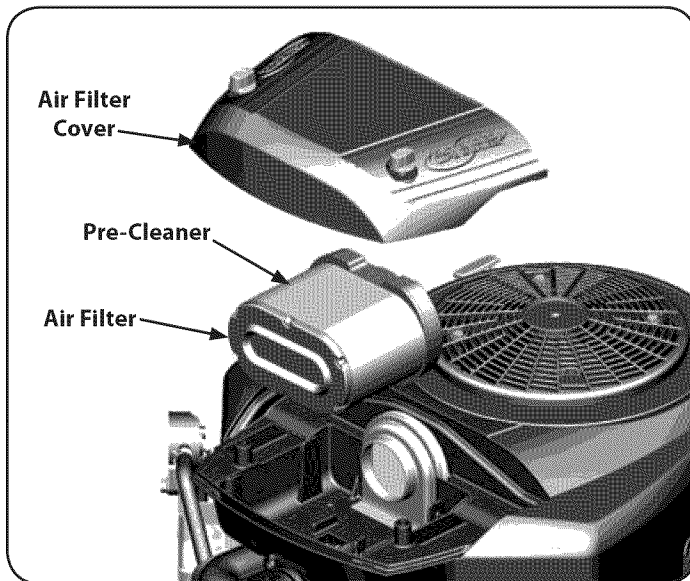

Figure 24
- Remove the air filter cover. See Figure 24.